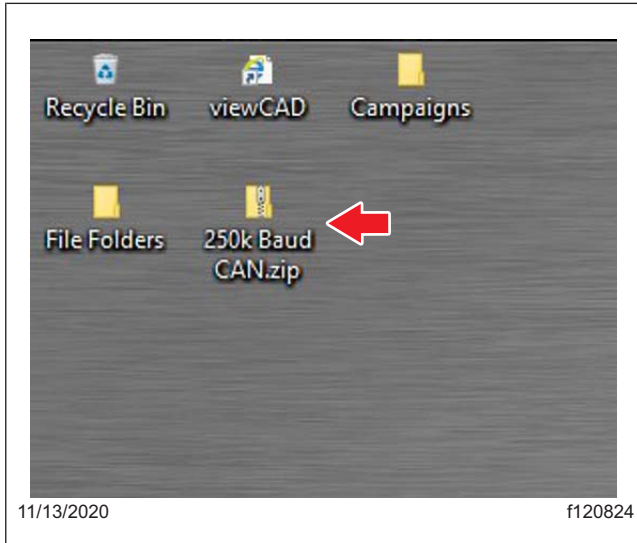
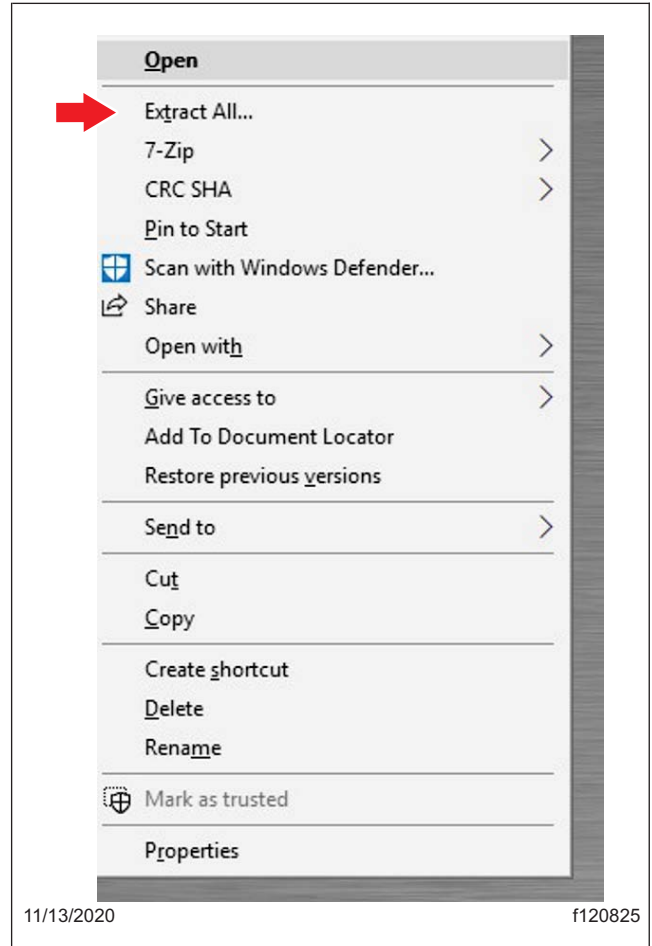

Fig. 6, 250k File on the Desktop
Fig. 7, Selecting Extract All
9. Navigate to the desktop and find the file named '250k Baud CAN.zip.' Right click on the file and select 'Extract All...' See Fig. 6 and Fig. 7.